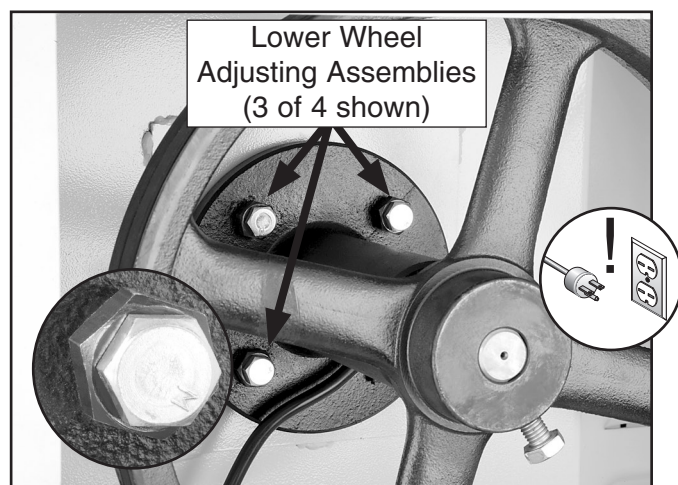

Figure 51. Lower wheel adjusting assemblies.
1. Check the coplanarity of the wheels as outlined above, then identify the four wheel adjusting assemblies of the bottom wheel (see **Figure 51**).